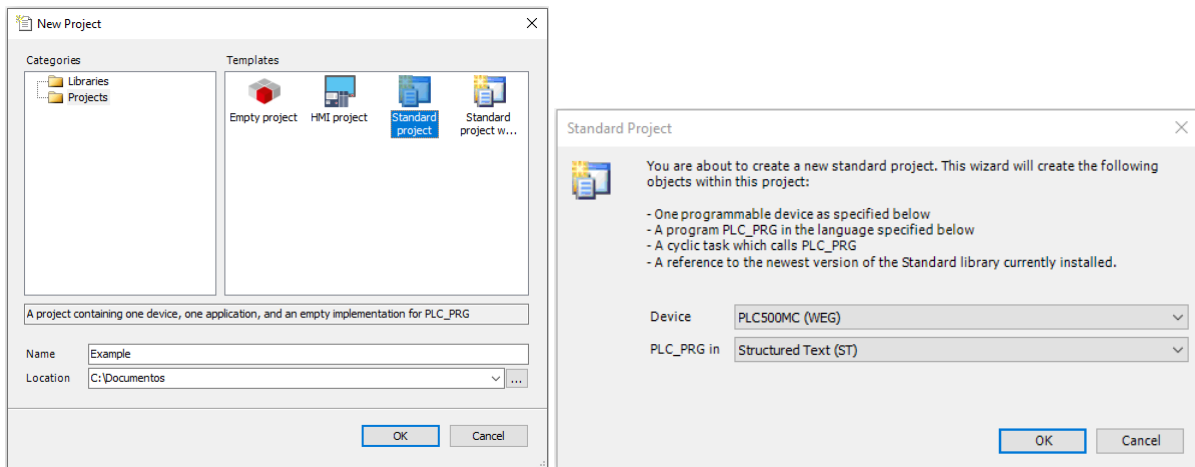

Figure 2.2: Project configuration in Codesys.
- After installation, open Codesys and create a new project in **File > New Project**. Select **Standard Project**, define a directory and the application name. Select the **PLC500MC** Device and the desired programming language, as shown in Figure 2.2.